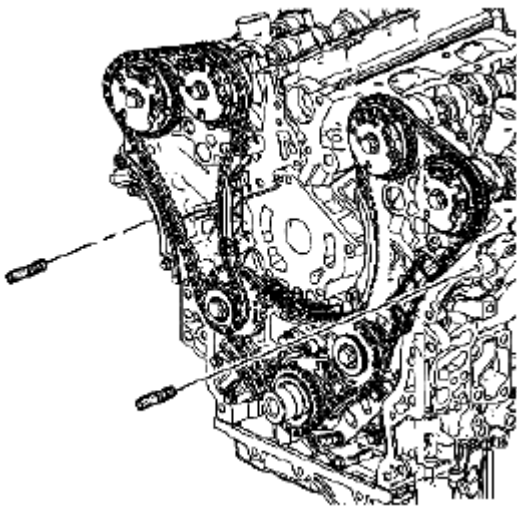

Fig. 949: Identifying Special Tool (EN 46109)
1. Install the 8 mm (0.315 in) guide from the EN 46109 into the cylinder block positions as shown in **Fig. 949**.